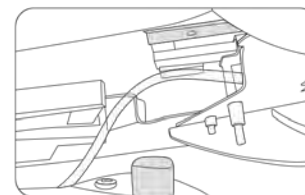

Figure 3
- Hook the back-end of the armrest on the steel frame (Note: There are two; place it on the upper one). (Figure 3)